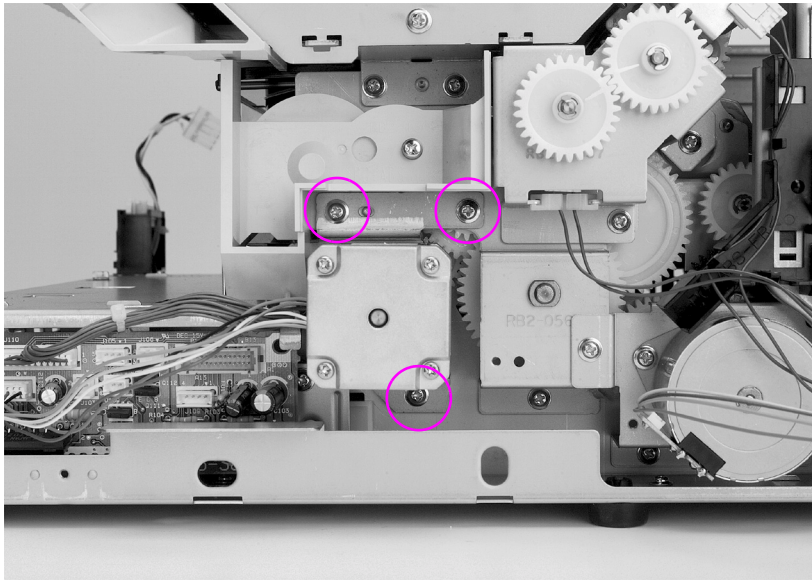

Figure 6-48 Fuser motor removal and replacement (2 of 2)
- 9 Remove the three fuser motor screws shown in Figure 6-48.